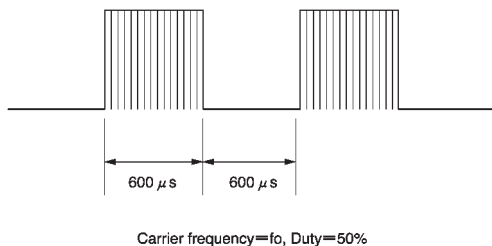
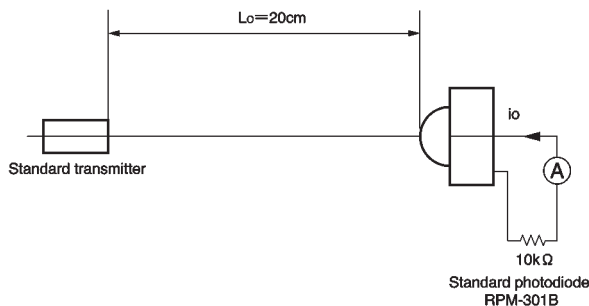
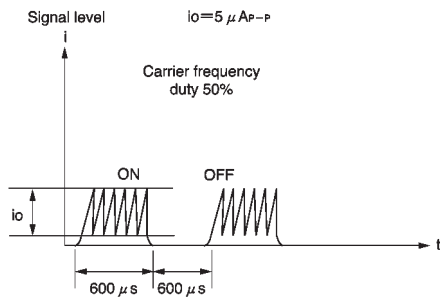

Fig.1 Transmit signal
Fig.2 Measurement of standard transmitter proofreading
Fig.3 Standard photodiode current
\*1 The burst wave form mentioned in fig.1 is to be transmitted from standard transmitter (fig.2).
When standard transmitter output the signal at Fig.1 standard photodiode output become  $i_o = 5 \mu A_{p-p}$  under the measurement condition Fig2, Fig.3.
(1) All characteristics of the receiver in this specification are specified by supplying burst wave form with ROHM standard transmitter (Fig.2).